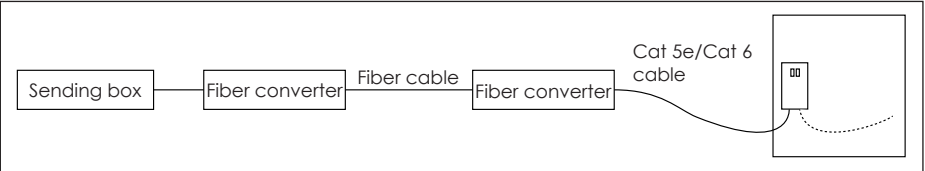

Figure 8: Route Cable
3. Route the Cat 5e/Cat 6 cable from the signal output jack to the signal input jack on the next panel. Refer to **Figure 8** and the Riser Diagram.